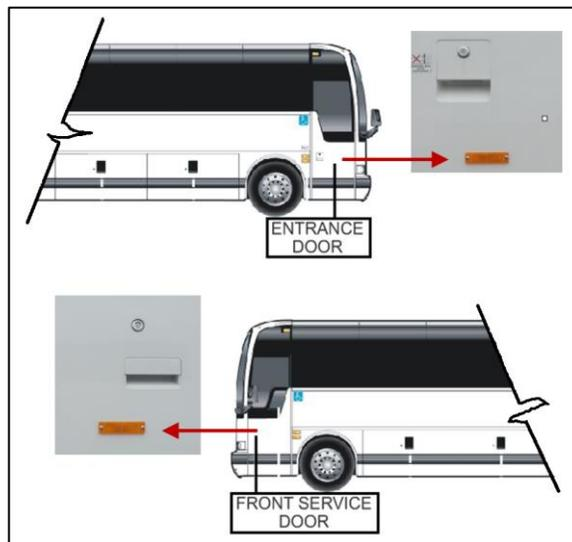

Figure 1
1. Check if all your vehicles (one or more) listed above have the reflector on the entrance door and on the front service door (Figure 1).